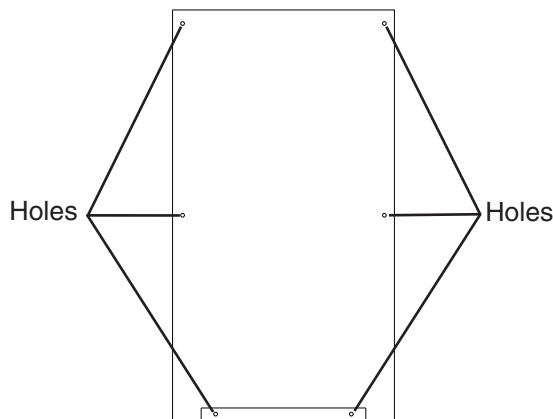

Fig. 9
- 2) Drill six 1/4" diameter (hardwood may require slightly larger diameter) holes 3/8" (10 mm) deep in the locations designated. See "(A) Threaded Inserts" and "(B) Threaded Inserts" in the specification diagram and Fig. 9.